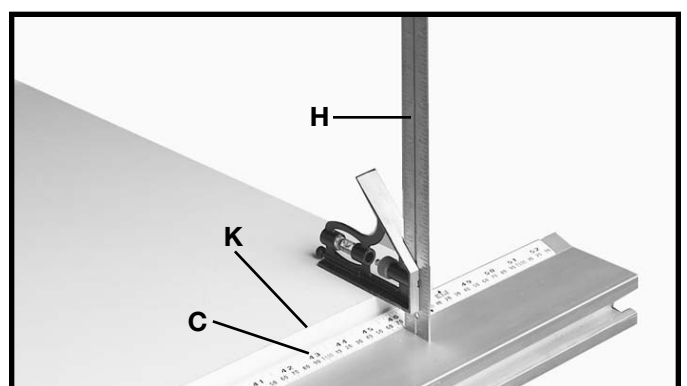
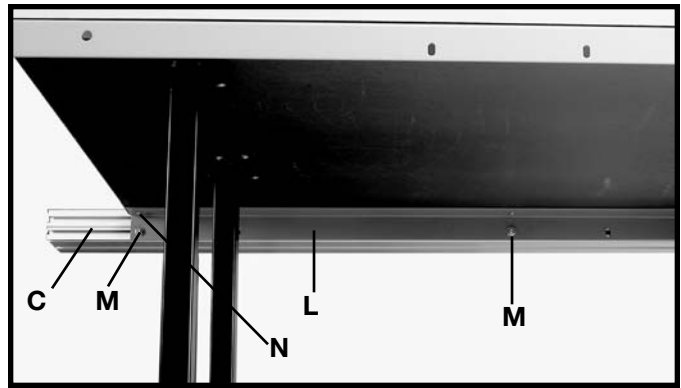

Fig. 54
Fig. 55
8. Move the square (H) Fig. 54, to the end of the Unifence table and check to make certain the same distance is maintained from the top surface of the extension table (K) to the top surface of the guide rail (C). Move the front table support (L) Fig. 55, against the guide rail (C), and tighten the 1/4-20 nuts (M). Tighten two wood screws, one of which is shown at (N) Fig. 55, that fasten the Unifence table to the guide rail.